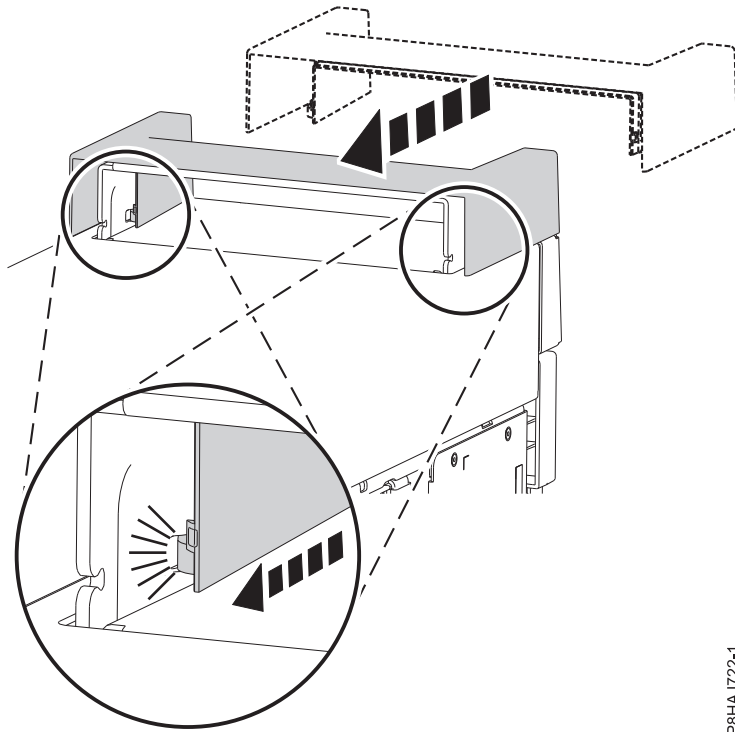

Figure 121. Securing the 8286-41A stand-alone system handle cover
1. Secure the handle cover to the internal RDX docking station (FC EUA3) by sliding it toward the rear of the system. See Figure 121.